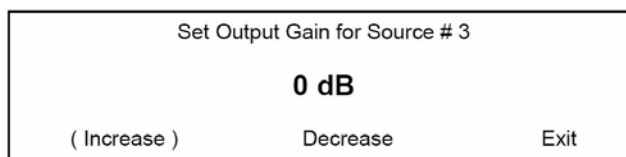

FIG. 35 Set Output Gain for Source # 3
3. The following screen is displayed (FIG. 35):